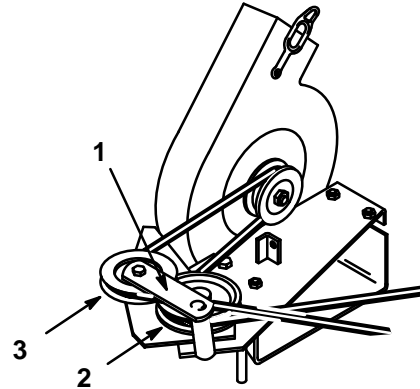

Figure 28
- Open latch and swing the blower out away from the mower, remove the blower belt from idler and blower pulleys (Fig. 28).